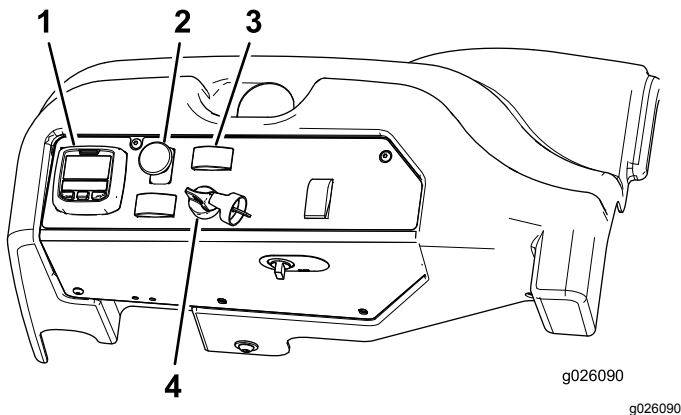

Figure 19
4. Move the PTO (power take-off) switch to the OFF position (Figure 19).